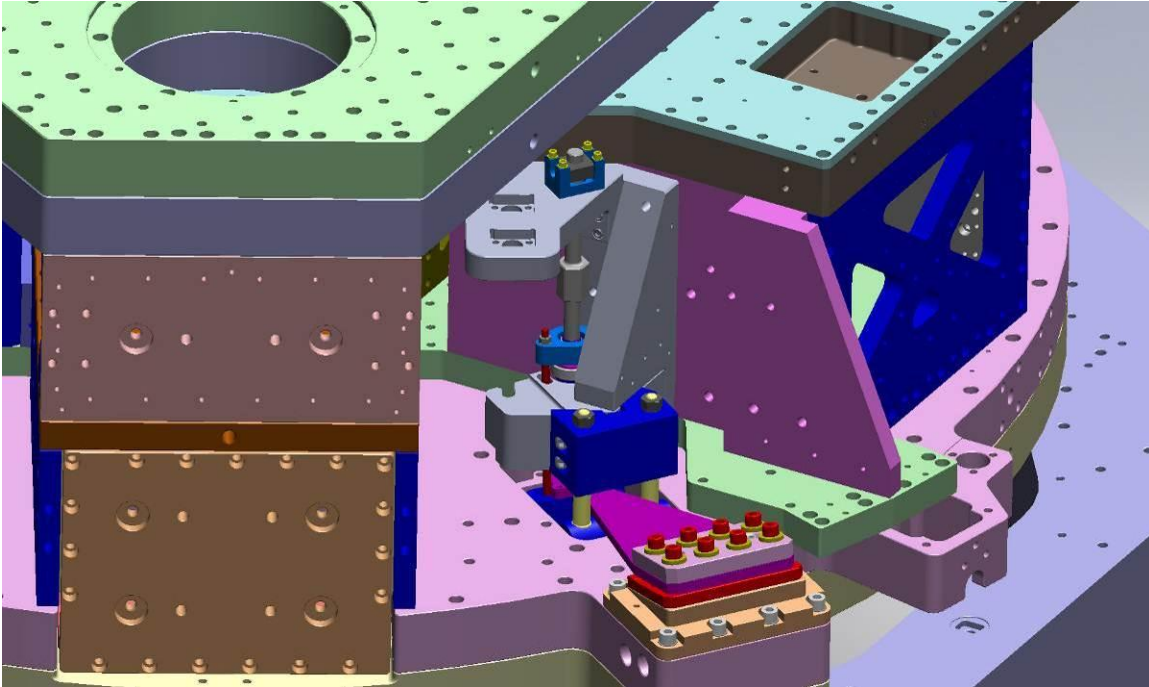

Figure 115: D0902164 Stage 1-2 Safety Mechanism & D0902454 Stage 1-2 Blade Puller Assembly on
- Insert (2) D0902166 Safety Mechanism Special Screws into the D0902165 Safety Mechanism Cap.
Note: D0902502 Stage 1-2 Blade Spring needs to be in between these (2) D0902166 Safety Mechanism Special Screws as shown on Figure 115.